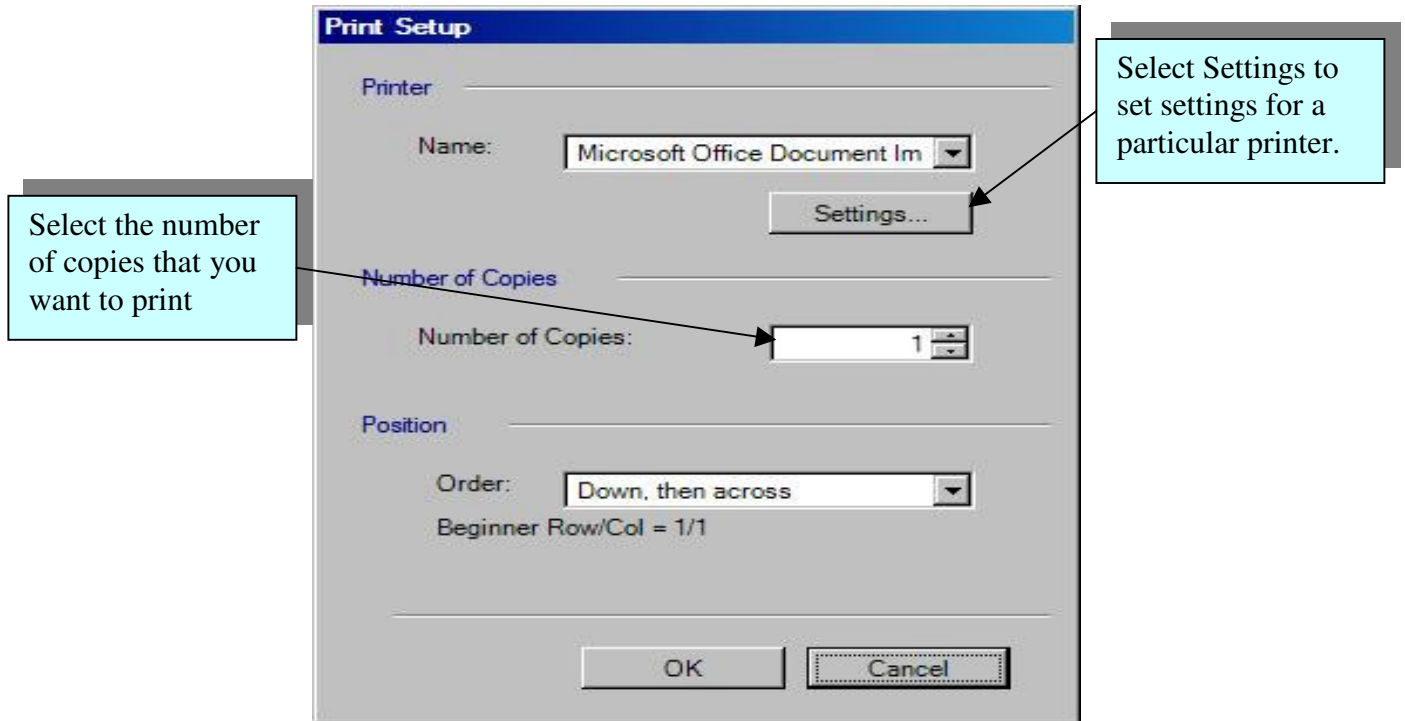

Figure 5.4.6: Select Number of Copies
3. Select the number copies of the label that you wish to print (see Figure 5.4.6).